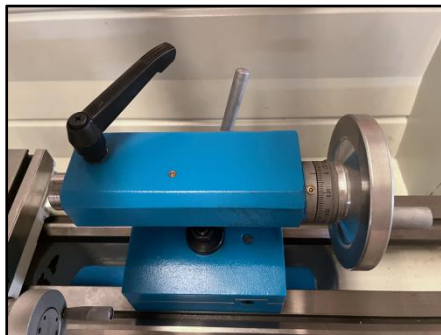

Figure-47 Tailstock oil ports
Lubricate the four oil ports (A) shown in figure-47 with 20w machine oi once daily.
Lubricate the two oil ports shown in figure-47 once daily.